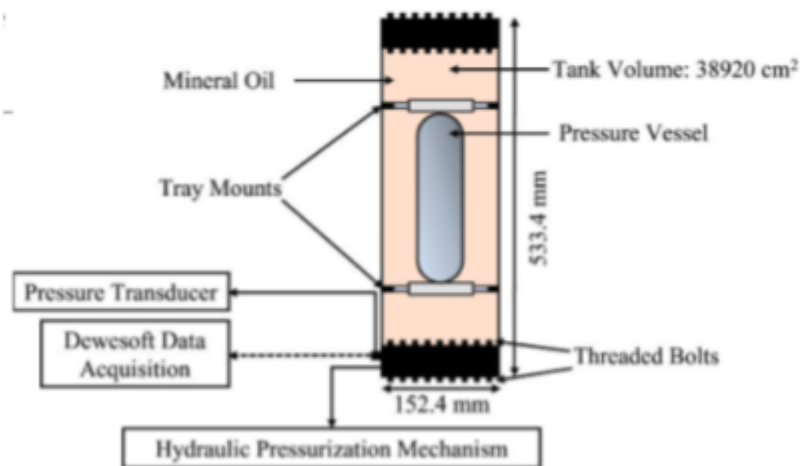

Figure 1: Schematic Diagram of High Pressure Implosion Facility
- What information do we get from the diagram (Figure 1)?
Dr. Matos printed 5 models of underwater sea vessels at URI's Advanced 3D Printing Lab. The models were made out of a material called Base PLA. Four of the models were each coated with a different material. The fifth model was left without a coating. One at a time, the models were tested inside the High Pressure Implosion Facility. During each test, a vessel was placed in a tank that simulated undersea-like conditions (Figure 1). Different amounts of pressure were applied to simulate the water pressure at different depths. The researchers measured how much pressure was applied before the model imploded, or was crushed. The researchers also simulated tests to see if the materials would lose strength after being exposed to seawater over different periods of time.